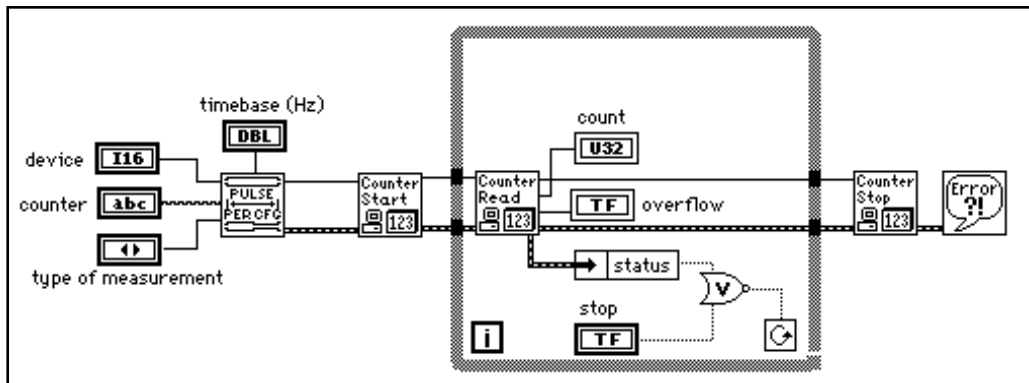

Figure 23-4. Measuring Pulse Width Using Intermediate VIs
Figure 23-4 describes how to measure pulse width using the following Intermediate Counter VIs: Pulse Width or Period Meas Config, Counter Start, Counter Read, and Counter Stop. Use this set of VIs to control when the measurement of the pulse width begins and ends. The Pulse Width or Period Meas Config VI configures a counter to count the number of cycles of a known internal frequency or timebase. The Counter Start VI begins the measurement. The Counter Read VI determines if the measurement is complete and displays the count value. With Am9513 devices, the Counter Read VI also alerts you if an overflow occurs (when the counter reaches terminal count (TC)). Overflows do not occur in continuous counter operations. Once you press the stop button, the Counter Stop VI stops the counter operation. And finally, the Simple Error Handler VI notifies you of any errors.